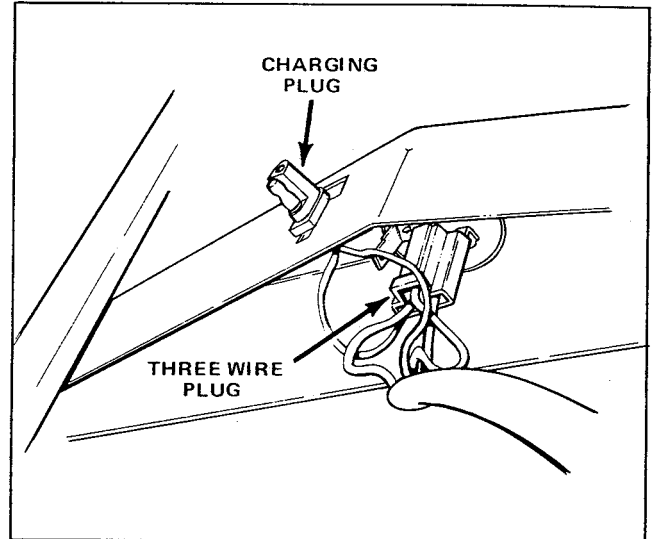

Figure 5. Installing Plug
3. Attach the three wire plug to the ignition switch (see figure 5).
4. Insert the charging plug into the slot on the handle crosspiece next to the ignition switch (see figure 5).